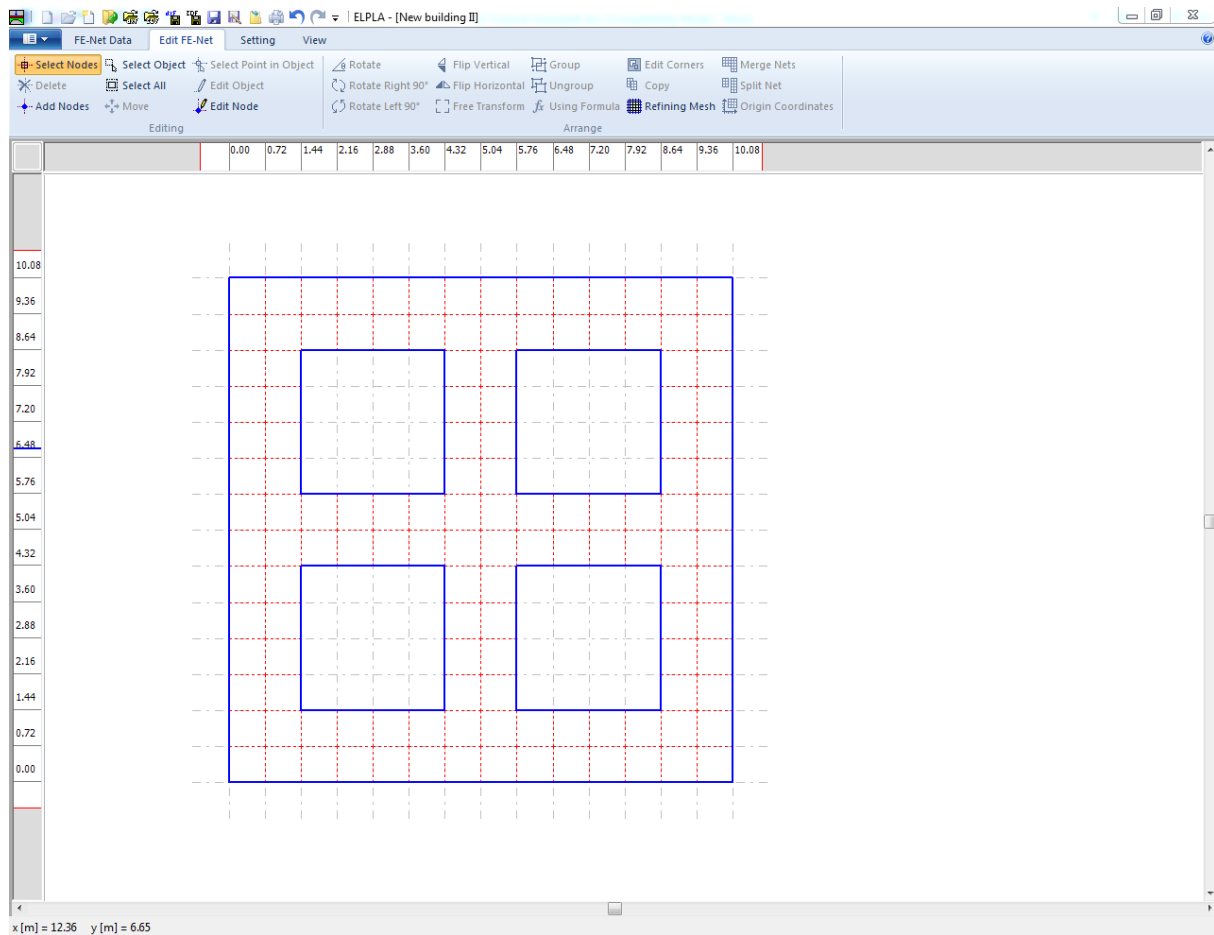

Figure 9.13 Final FE-Net after deleting the unnecessary nodes
To remove the selected nodes, choose "Delete" command from "Edit FE-Net" menu. The action of this command is indicated in Figure 9.13. To leave the graphic mode, press "Esc" key.
- Choose "Save FE-Net" command from "File" menu in Figure 9.13 to save the data of the FE-Net
- Choose "Close FE-Net" command from "File" menu in Figure 9.13 to close "FE-Net" Window and to return to *ELPLA* main window.